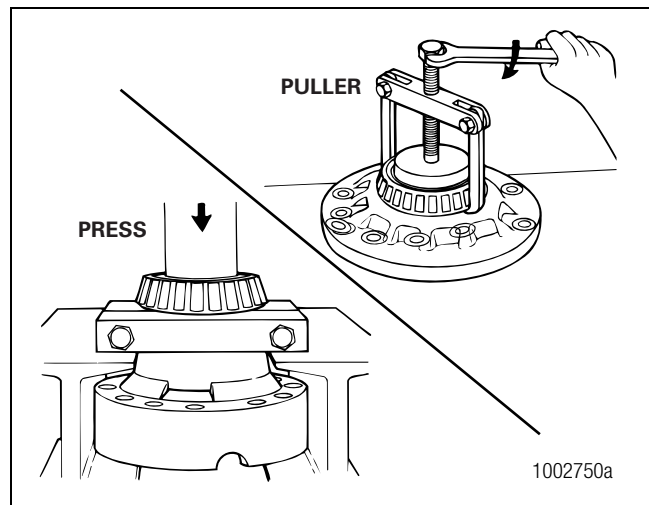

Figure 3.19
- **If you need to replace the differential bearings:** Use a bearing puller or press to remove the bearing cones from the case halves. Figure 3.19.